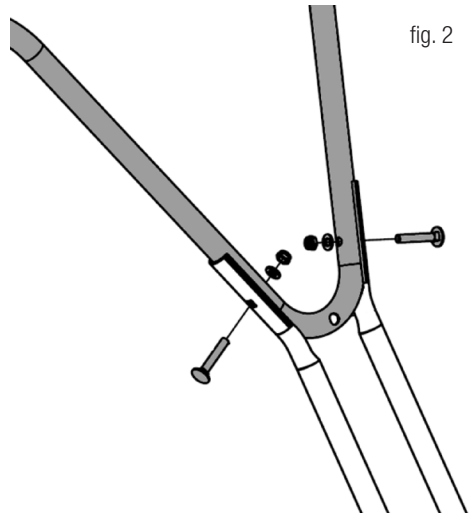

fig. 2
2. Mount the upper handle. Use the screws, nuts and washers as shown in fig. 2.